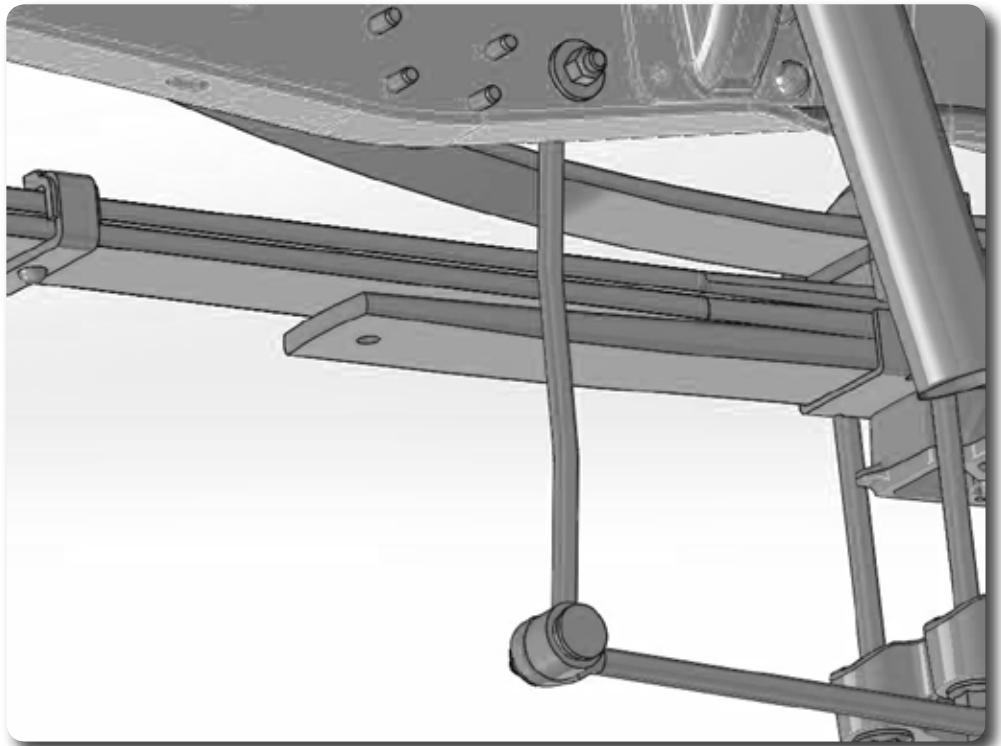

Figure 1
1. Disconnect the sway bar links from frame and sway bar. Discard the sway bar links and hardware, they will not be reused. **Figure 1**